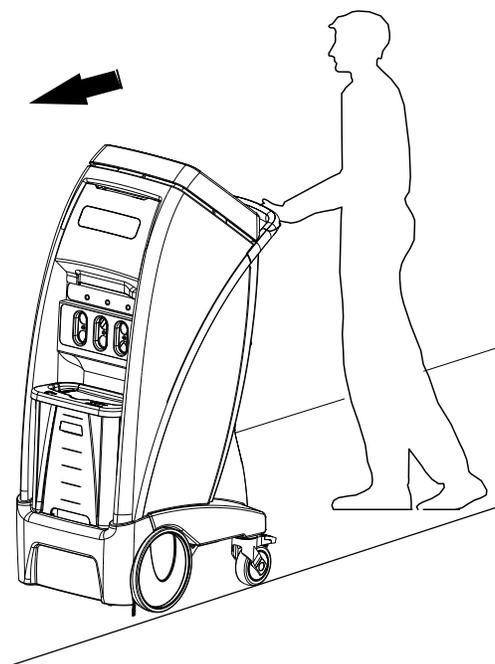

Figure 23: Transport position
3. Make sure to place the product with the ports facing the front (Figure 23 on page 36).